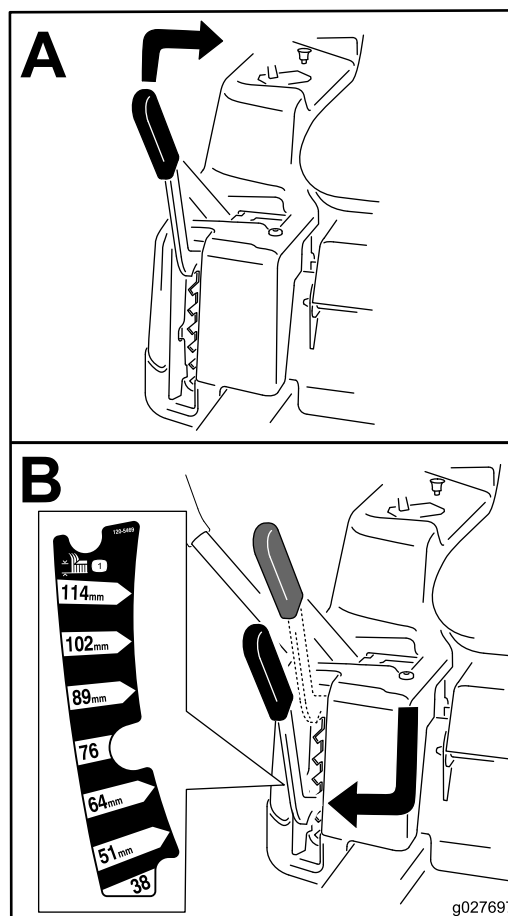

Figure 17
**Note:** The transport position is the highest height-of-cut position or cutting height at 115 mm (4.5 inches) as shown in Figure 17.
Height of cut is controlled by the lever located to the right of the operating position (Figure 17).